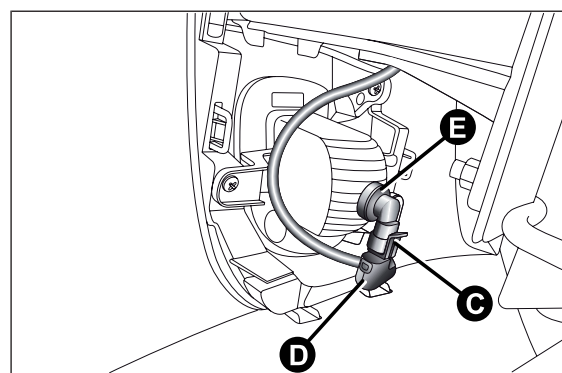

fig. 124
- ☐ adjust the catch C and disconnect the electrical connector D fig. 124;